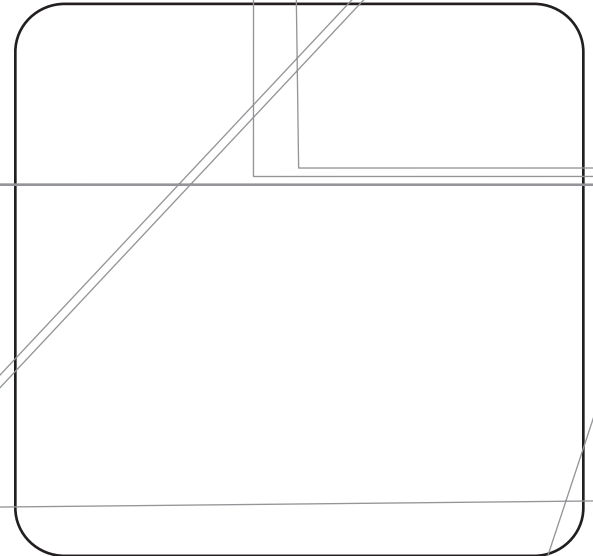

Figure 3-12: Adjusting the handle height.
2. Remove the star knobs shown in Figure 3-12 and remove the lower handles.
3. Position each handle bracket stud into the appropriate hole in the lower handle. See Figure 3-12. Each end of the lower handle must be placed in the same position.